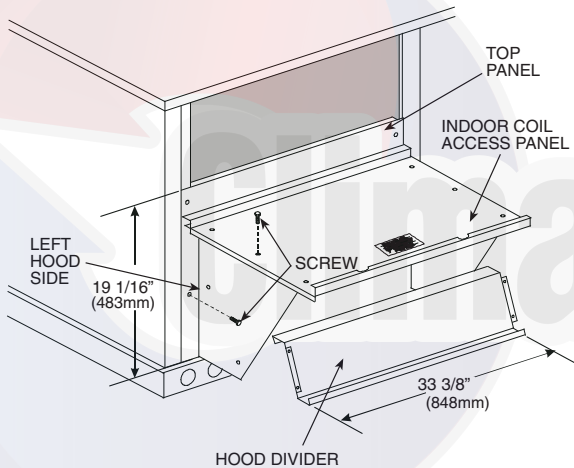

Fig. 16 — Economizer Hood Construction
- Swing out indoor coil access panel and insert the hood sides under the panel (hood top). Use the screws provided to attach the hood sides to the hood top. Use screws provided to attach the hood sides to the unit. See Fig. 16.
- Insert the hood divider between the hood sides. See Fig. 16 and 17. Secure hood divider with 2 screws on each hood side. The hood divider is also used as the bottom filter rack for the aluminum filter.